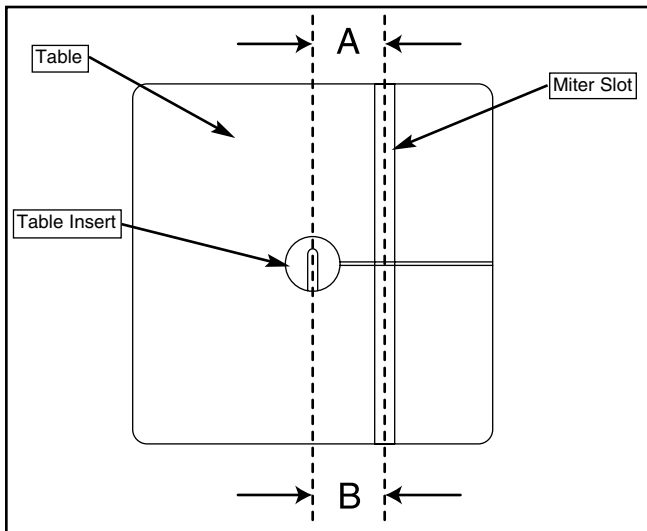

Figure 21. Squaring table to blade.
2. Use the largest width blade available installed in the machine. Lay a straightedge along side the blade and inspect it closely to make sure it is parallel to the blade. Make sure there is no deflection of the blade from the straightedge. Measure the distance between the edge of the miter gauge slot and the straightedge at points **A** and **B**. See **Figure 21**. Distance **A** should be approximately equal to distance **B**. Adjust the table slightly until these distances are equal.